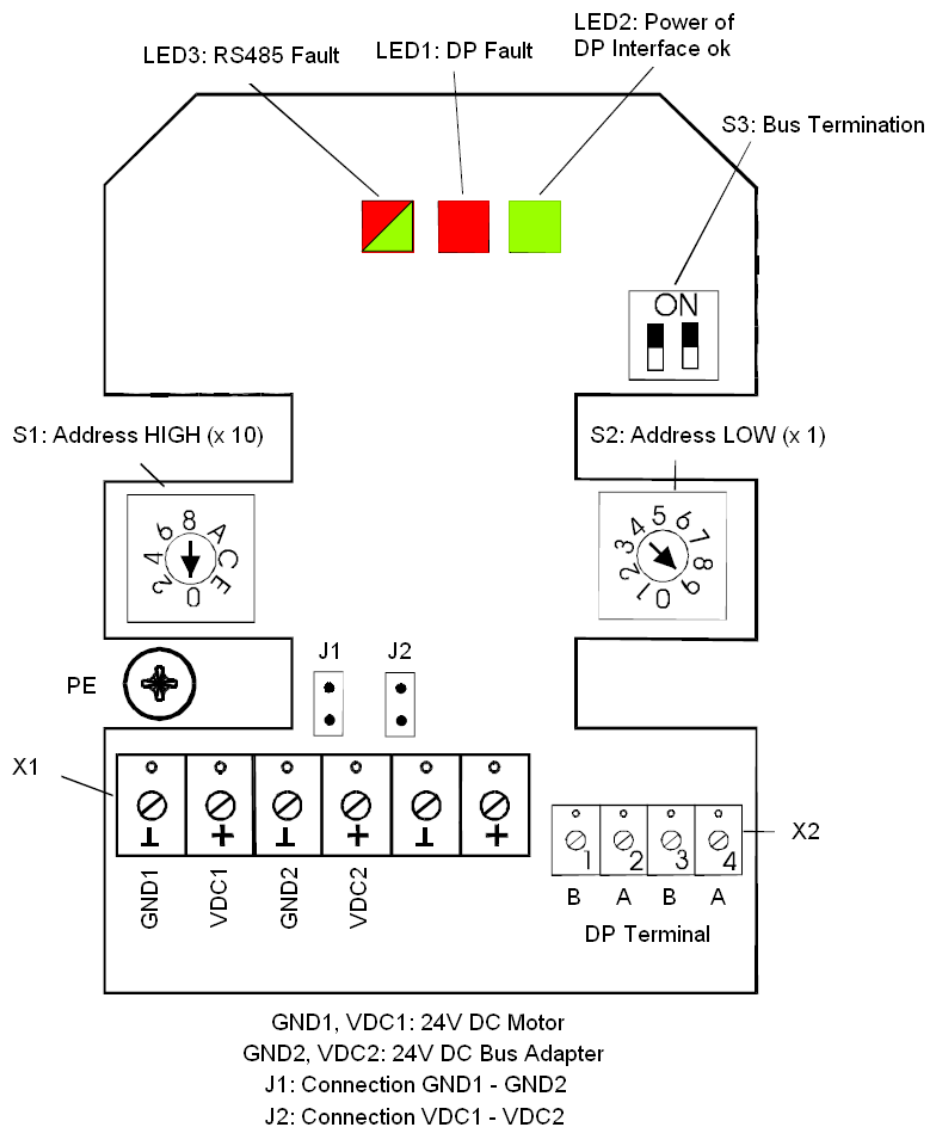

Fig. 5: Position of the connection and operating elements
- Connect all wires with the appropriate terminals (observe polarity!) and screw the protective conductor to the appropriately labelled screw, and firmly tighten contacts (**Fig. 5**).